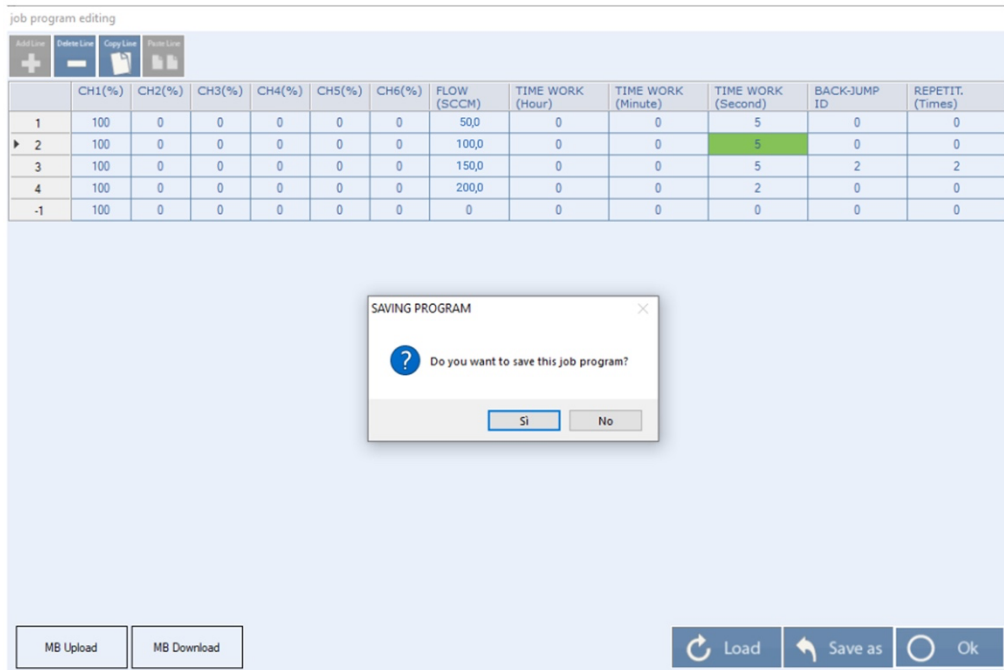

Figure 6-35
5. If you press the **“Ok”** button and click **“Yes”** in the confirmation windows the “job program editing” will close and it will be possible to run the program written from the software PC. (Figure 6-35)